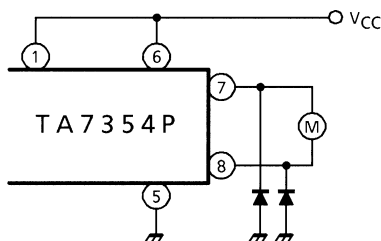

Fig. 3
- (2) If the braking operation is so loose, connect a additional diode between each output to GND. (See Fig.3)